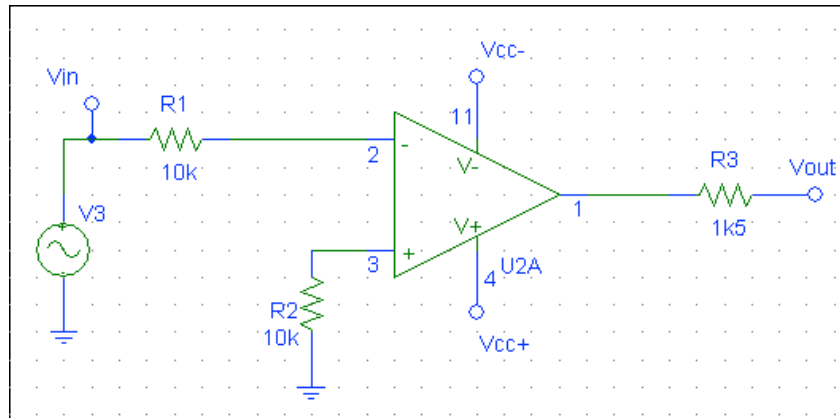

Fig. 4 Zero cross detector
1. Solder circuit illustrated in fig. 4. Connect the oscilloscope and observe V_{in} on channel B and V_{out} on channel A.